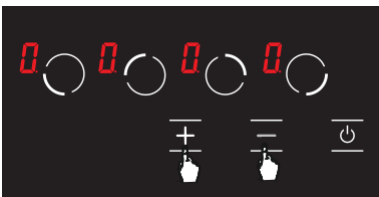

Figure 7
3. Cooking level of the relevant hob may be set from 1 to 9 using the  and the  keys or from  to 9 as per the option of the Hob. (See Fig. 7)